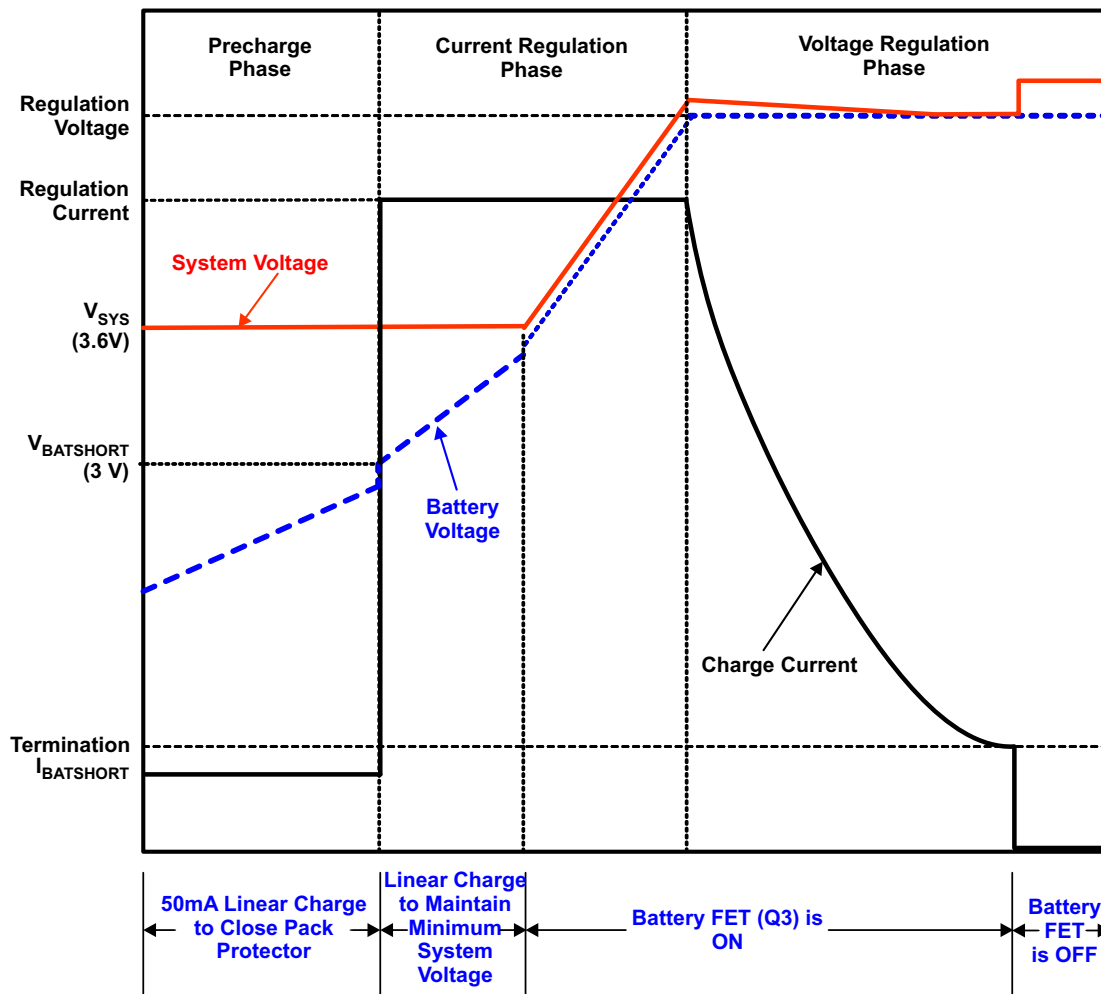

Figure 10. Typical Charging Profile of bq24266
The bq24266 supports a precision Li-Ion or Li-Polymer charging system for single-cell applications. Charging is done through the internal battery MOSFET. There are 6 loops that influence the charge current; constant current loop (CC), constant voltage loop (CV), thermal regulation loop, minimum system voltage loop (MINSYS), input current limit and V_{IN} -DPM. During the charging process, all six loops are enabled and the one that is dominant takes control. The minimum system output feature regulates the system voltage to $V_{SYSREG(LO)}$, so that startup is enabled even for a missing or deeply discharged battery. Figure 10 shows a typical charge profile including the minimum system output voltage feature.
Once the battery is charged enough that the system voltage rises above $V_{\text{SYSREG(LO)}}$ (approximately 3.5V), the battery FET is turned on fully and the battery is charged with the full programmed charge current set by ISET. The charge current is regulated to I_{CHARGE} until the voltage between BAT and PGND reaches the regulation voltage. The voltage between BAT and PGND is regulated to V_{BATREG} (CV mode) while the charge current naturally tapers down as shown in Figure 10. During CV mode, the SYS output remains connected to the battery. The impedance of the battery FET is increased to 4x of the fully on value when IBAT falls below ~350mA to provide increased accuracy during termination. This will show a small rise in the SYS voltage when the $R_{\text{DS(ON)}}$ increases below ~350mA.